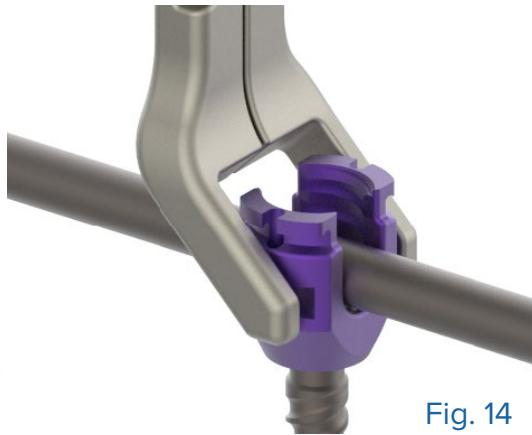

Fig. 14
- Position the forks in the lower cut-out feature of the tulip and engage the rod with the base of the pocket (Fig. 14).